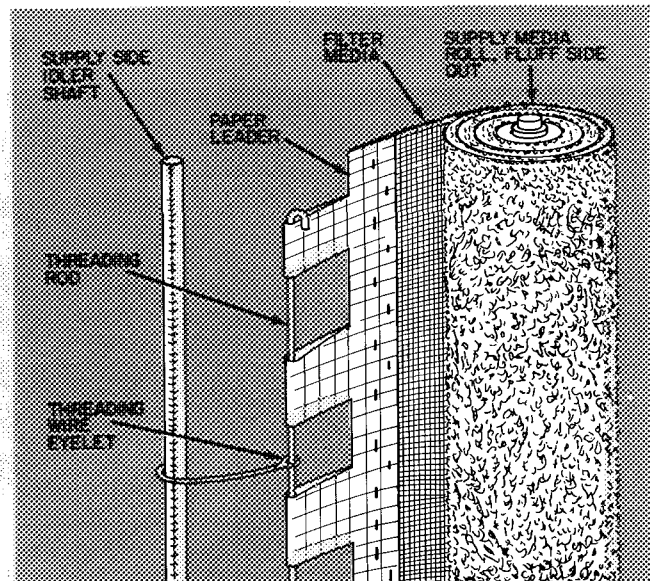

Fig. 7 — Threading Details (Step 6)
- media track. Install threading rod on filter media paper leader so that threading rod eyelet is trapped at about midpoint of leader (Fig. 7).